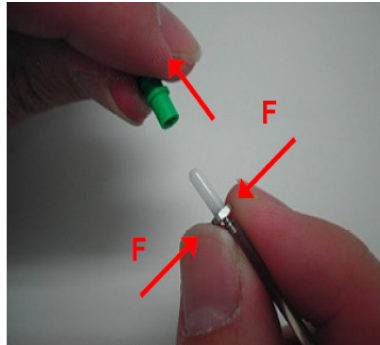

Figure 31
12. Holding the metal screw of the fiber stub, take off the dust cap. Do not pull fiber protection sleeve, this action could break the fiber. (Fig. 31)